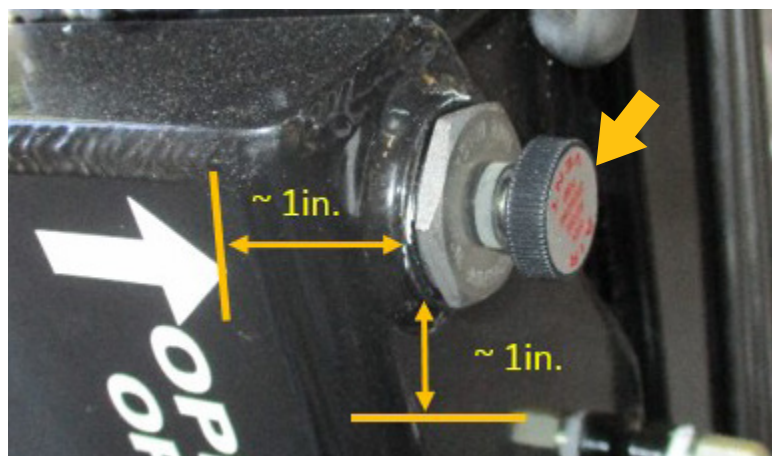

Figure 5.13 - Reservoir Assembly - Showing Reservoir Cap (Closed for Shipping, Open for Operation)
**5.3-1** Remove air pump reservoir fill cap to check the oil level (Figure 5.13). Oil level should be within 1" from the top of the reservoir when parallel or perpendicular to the ground.
- 5.4.1 Remove air pump reservoir fill cap to check the oil level (*Figure 5.13*). Oil level should be within 1” below fill port when perpendicular (Horizontal) to the ground orientation.